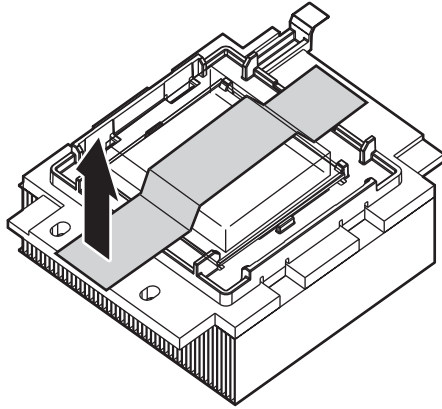

Figure 72 Remove the protective cover from the processor
1. Remove the protective cover from the processor (Figure 72).